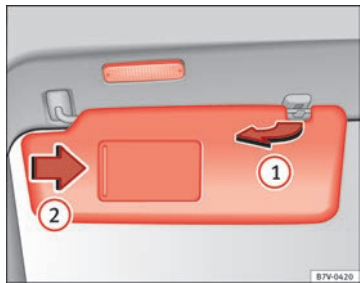

Fig. 63 Sun visor
- The sun visor can be pulled out of its mounting and turned towards the door → Fig. 63 ①.